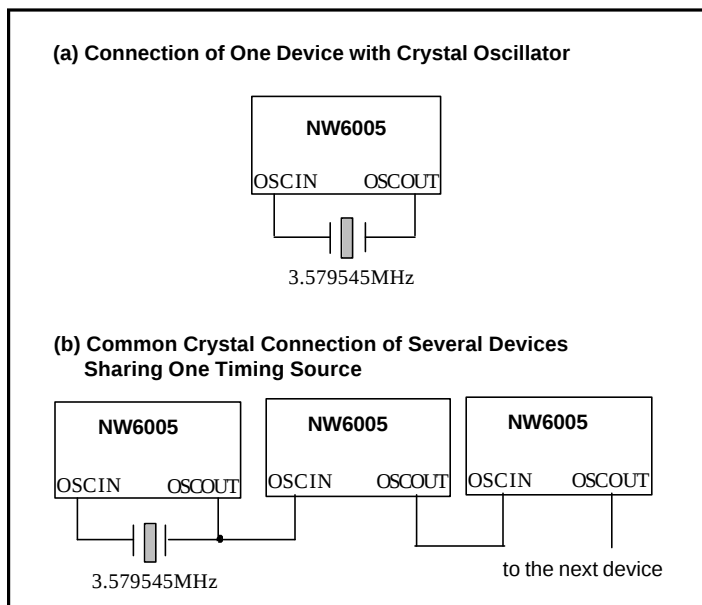

Figure 8. Application of Clock Driven Circuit
A 3.579545 MHz crystal oscillator or other external clock source is required for NW6005. The crystal can be directly connected between OSCIN and OSCOUT pins without any external component. If an external clock source is used, OSCIN pin should be driven by the clock source and OSCOUT pin is left floating or is used to drive other devices. Fig. 8 shows some applications.
- 2) By choosing $t_{CA} = 15 \text{ ms}$, t_{ABS} will be 15-25 ms (refer to Fig. 8). Current wetting pulse and AC/DC load should be applied right after the STD rising edge.